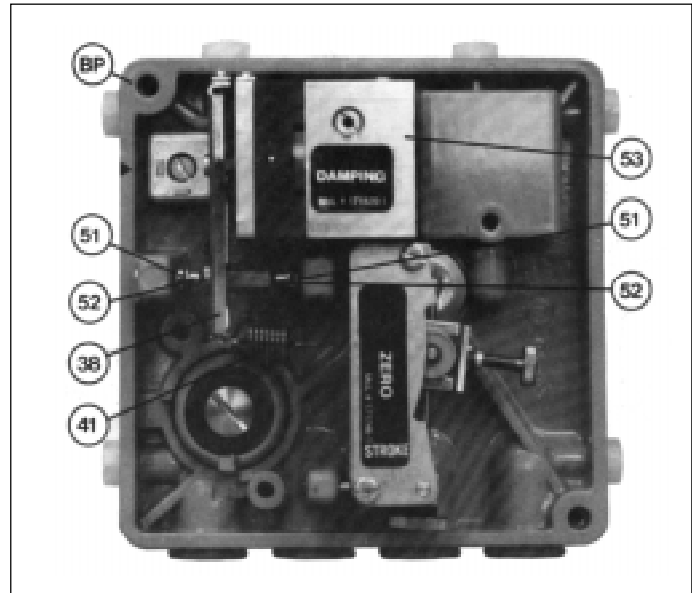

Figure 13
C. Replacing The Amplifier: (See Figure 13)